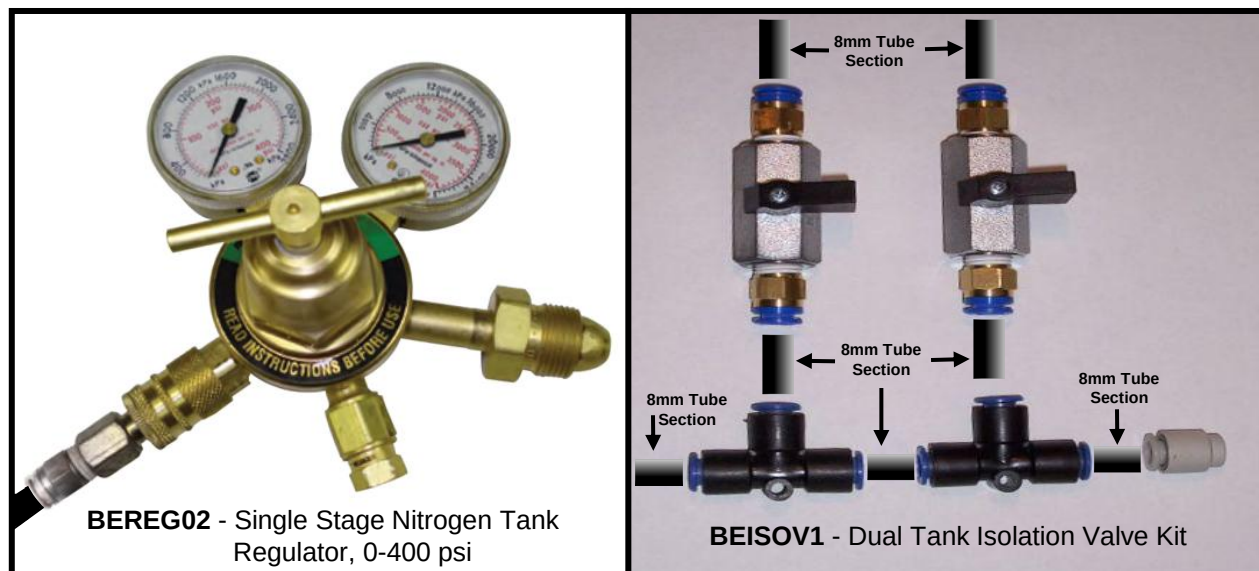

Figure 30
12.1 If the Fiber Bundle blowing distance will exceed the normal capacity of one (1) gas Tank, two (2) Tanks may be connected together to Double the Available Volume of Air. The "Installer Provided" equipment requirement; two (2) gas Tanks, two (2) Pressure Regulators (BEREG02), and a Dual-Tank Isolation Valve Kit (BEISOV1). See Fig. 30.